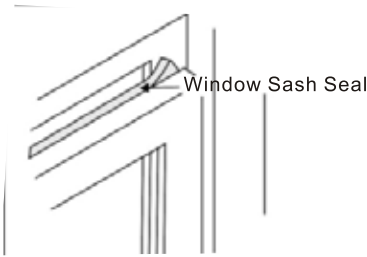

Fig.18
1. Trim sash seal to fit window width. Insert into space between upper and lower sashes(Fig.18).